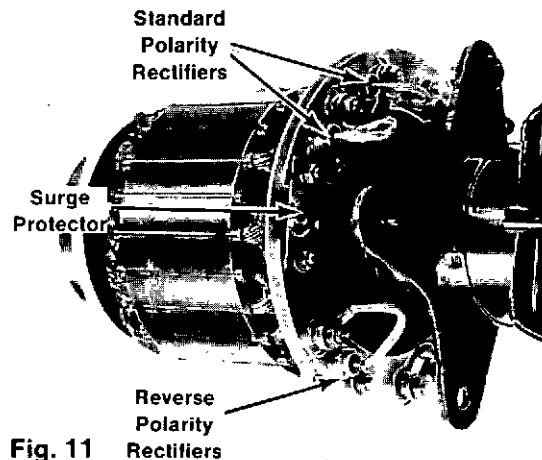

Fig. 11
1. The rectifier assembly consists of 3 standard polarity rectifiers, 3 reverse polarity rectifiers, and a surge protector (see figure 11).